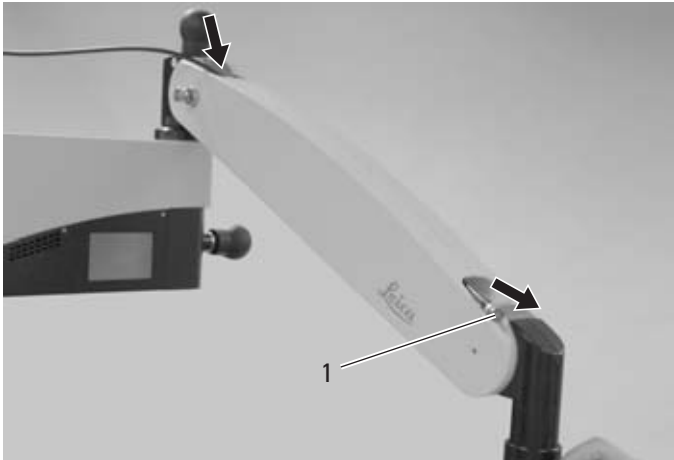

Fig. 1
- ⇒ Thread the video cable (1) at the top into the swing arm and pull it out at the bottom (Fig. 1).